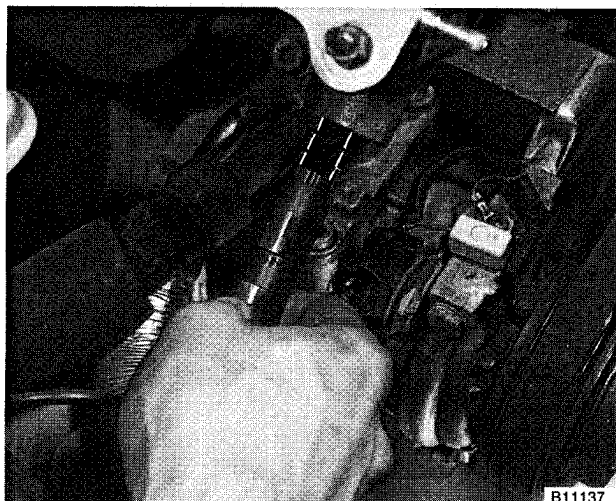

Fig. 34. Primary timing chain tensioner being installed. Piston cutout must be in position shown to engage chain rail.
20. On 1993 and later engines: Remove BMW special tool 11 3 390 (dummy tensioner). Install primary chain tensioner so that cutout in tensioner piston engages the chain rail. See Fig. 34. Install and tighten access plugs in VANOS control unit.
11. On 1992 engines: Install primary chain tensioner so that cutout in tensioner piston engages chain rail. See Fig. 34. Check that chain is free of slack.